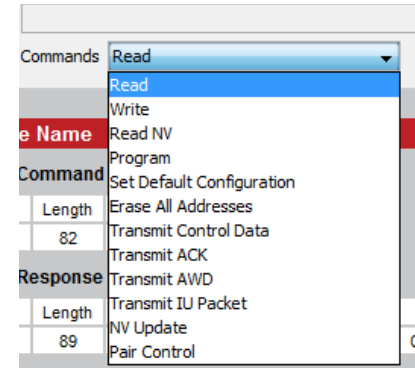

Figure 18: The Master Development System Software Demo Command Set Tab Commands Menu
- The Commands drop-down menu shows all of the commands that are available for the active module (Figure 18). Selecting one of the commands from this menu automatically fills in the Command box. The values can be adjusted by typing in the box.